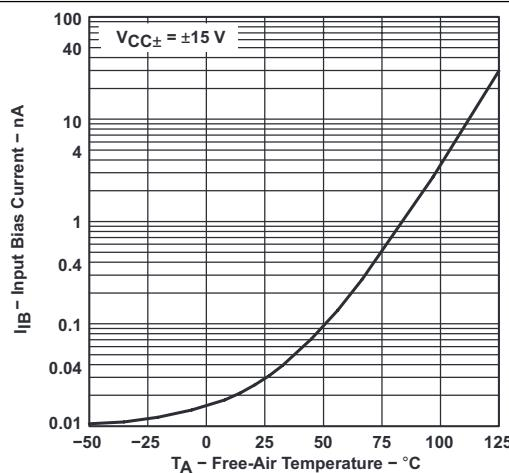

Figure 6-12. Input Bias Current vs Free-Air Temperature
- (1) All characteristics are measured under open-loop conditions with zero common-mode input voltage unless otherwise specified. Full range for  $T_A$  is  $0^\circ C$  to  $70^\circ C$  for TL06xC, TL06xAC, and TL06xBC and  $-40^\circ C$  to  $85^\circ C$  for TL06xl.
- (2) Input bias currents of an FET-input operational amplifier are normal junction reverse currents, which are temperature sensitive, as shown in Figure 6-12. Pulse techniques are used to maintain the junction temperature as close to the ambient temperature as possible.
- (3) Specified by design and characterization; not production tested.
- (1) All characteristics are measured under open-loop conditions with zero common-mode input voltage, unless otherwise specified. Full range for  $T_A$  is  $0^\circ C$  to  $70^\circ C$  for TL06xC, TL06xAC, and TL06xBC and  $-40^\circ C$  to  $85^\circ C$  for TL06xl.
- (3) Assured by design and characterization; not production tested.
(1) This parameter is not production tested.
(2) All characteristics are measured under open-loop conditions, with zero common-mode voltage, unless otherwise specified.
(3) Input bias currents of an FET-input operational amplifier are normal junction reverse currents, which are temperature sensitive, as shown in Figure 6-12. Pulse techniques are used to maintain the junction temperature as close to the ambient temperature as possible.
(4) Specified by design and characterization; not production tested.